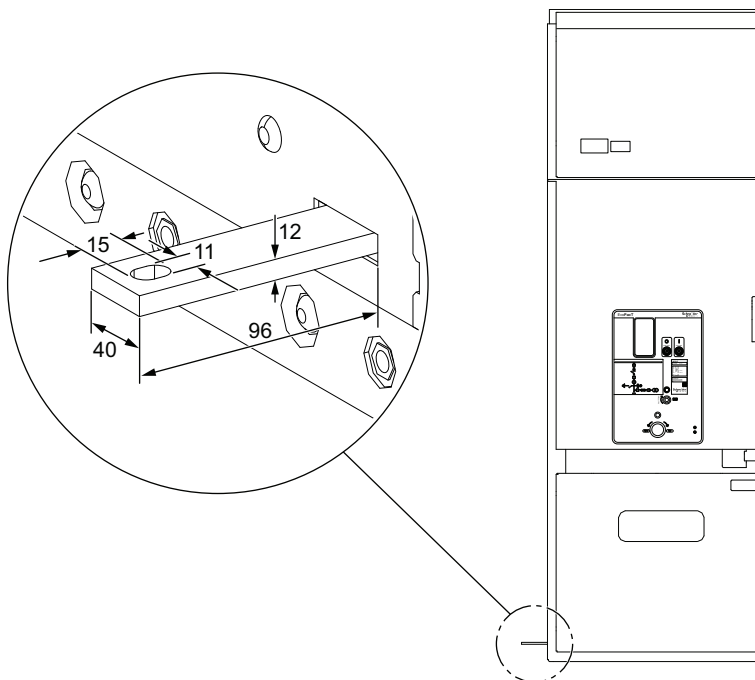

Figure 29
1. Slip the connecting bar into the adjacent cubicles supporting structure through the cut out in the cubicle (Figure 29).